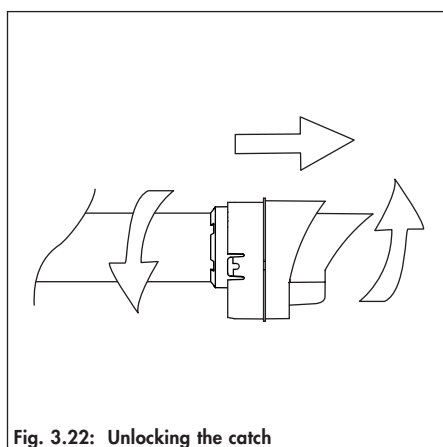

Fig. 3.22: Unlocking the catch
- Unlock the catch between the terminal and the flue duct by twisting them against each other (fig. 3.22).